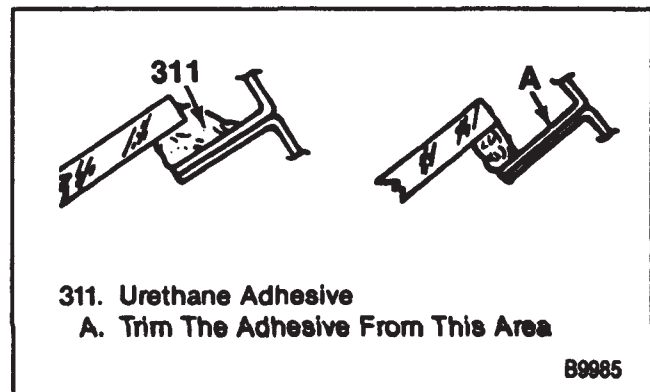

Figure 3—Reveal Molding Cavity Trim Points
4. Excess urethane adhesive from the cavity between the window edge and the window frame (figure 3).